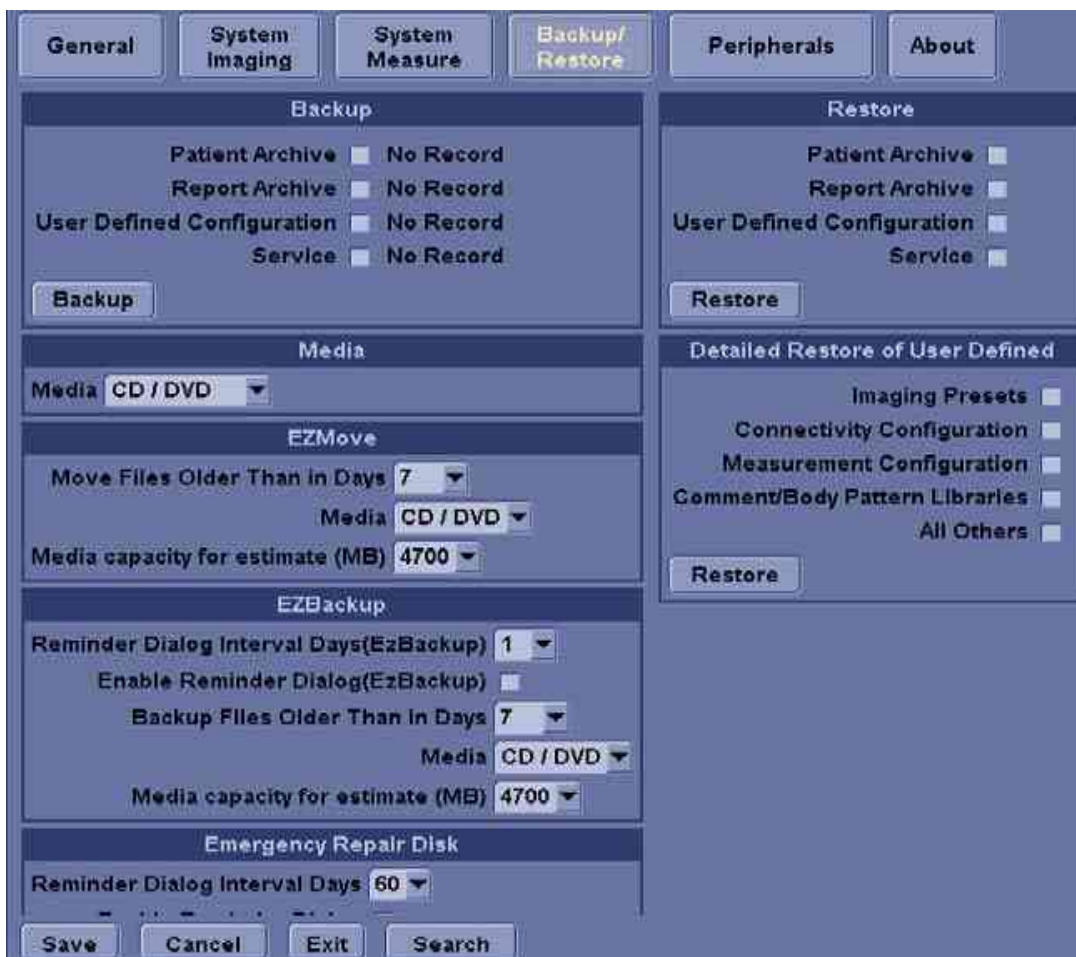

Figure 4-3 Backup Sheet
- 2.) Access to the Utility/Config Menu, and select System. The Restore sheet will be shown on the LCD display. (see Figure 4-3 on page 4-5)